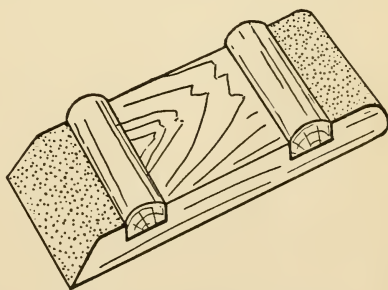

FIG. 13. — Sand-paper Block.
**A Sand-paper Block** similar to Fig. 13 should be made. Cut a block of wood five inches long, two and one-half inches wide, and seven-eighths of an inch thick. Then place it in the vise, and bevel one end and round the other as shown in the drawing. An inch and one-half from each end cut "rabbets" one inch wide across the block, and make two blocks to fit them. When this has been done, cut a strip of sand-paper two and one-half inches wide and stretch it around the block, holding it in place by driving the small blocks into the rabbets. You will find this sand-paper block very handy, as some portion of it can be got into almost every corner you will ever have occasion to sand-paper. The paper may be quickly replaced with a fresh piece when worn out.